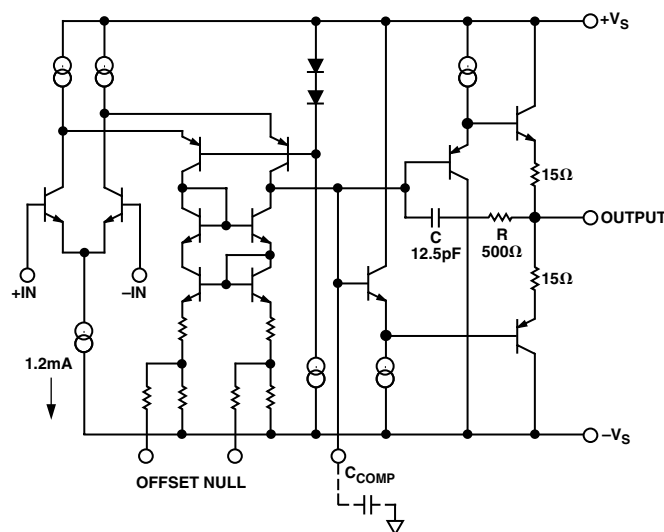

Figure 25. AD829 Simplified Schematic
The AD829 is fabricated on Analog Devices' proprietary complementary bipolar (CB) process which provides PNP and NPN transistors with similar f_T s of 600 MHz. As shown in Figure 25, the AD829 input stage consists of an NPN differential pair in which each transistor operates at 600 μ A collector current. This gives the input devices a high transconductance and hence gives the AD829 a low noise figure of 2 nV/ $\sqrt{\text{Hz}}$ @ 1 kHz.
An RC network in the output stage (Figure 25) completely removes the effect of capacitive loading when the amplifier is compensated for closed-loop gains of 10 or higher. At low frequencies, and with low capacitive loads, the gain from the compensation node to the output is very close to unity. In this case, C is bootstrapped and does not contribute to the compensation capacitance of the device. As the capacitive load is increased, a pole is formed with the output impedance of the output stage—this reduces the gain, and subsequently, C is incompletely bootstrapped. Therefore, some fraction of C contributes to the compensation capacitance, and the unity gain bandwidth falls. As the load capacitance is further increased, the bandwidth continues to fall, and the amplifier remains stable.